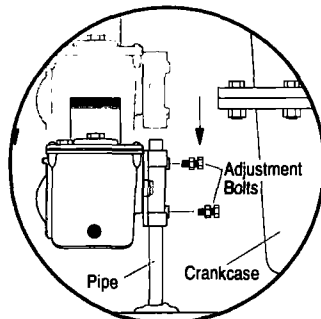

Figure 1B
3. Slip the LM300 onto the pipe and install the two adjustment bolts. Each adjustment bolt consists of a 3/8-16 UNC x 1 inch bolt and two nuts. See Figure 1B. **DO NOT** tighten the adjustment screws too tightly because you will have to adjust the LM300 later in the installation process.